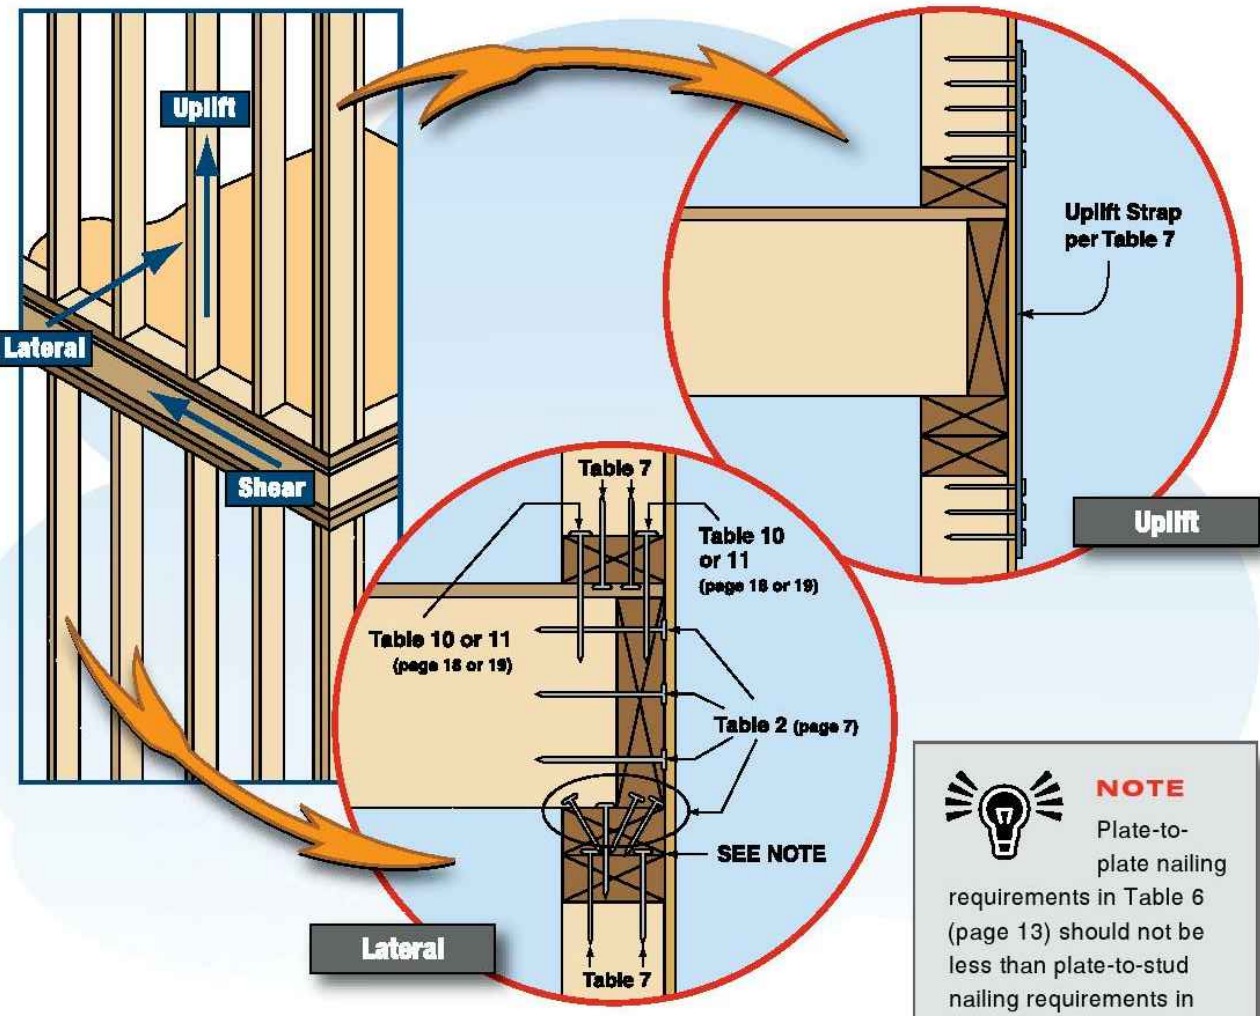

Figure 14. Story-to-Story Uplift and Lateral Connections
- Wall Assembly to Wall Assembly Connections.** Story-to-story connections from upper story wall studs to lower story wall studs shall be in accordance with the requirements of Table 7 (See Figure 14). When upper story wall studs are not located directly above lower story wall studs, the studs shall be attached to a common member in the floor assembly with connections in accordance with Table 7.